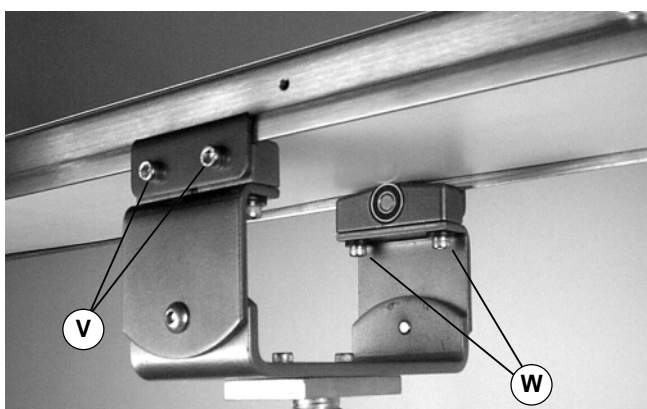

Figure 12
3. Attach clamp plates on each side of conveyor (Figure 12). Tighten the screws (V) to 80 in-lb (9 Nm).